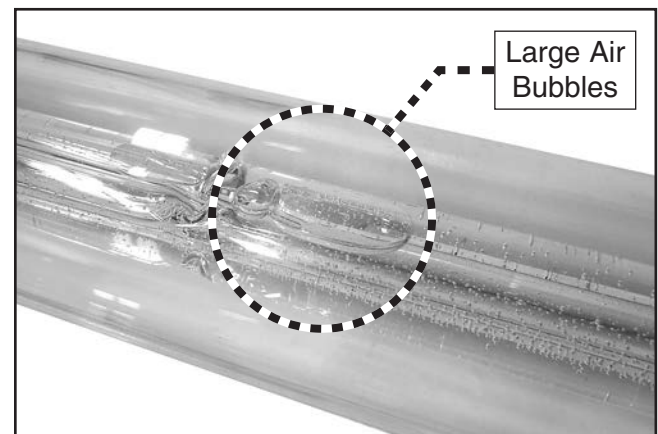

Figure 20. Air bubbles present in laser tube.
9. Open laser tube access door and verify large air bubbles have released from laser tube (see **Figure 20**).